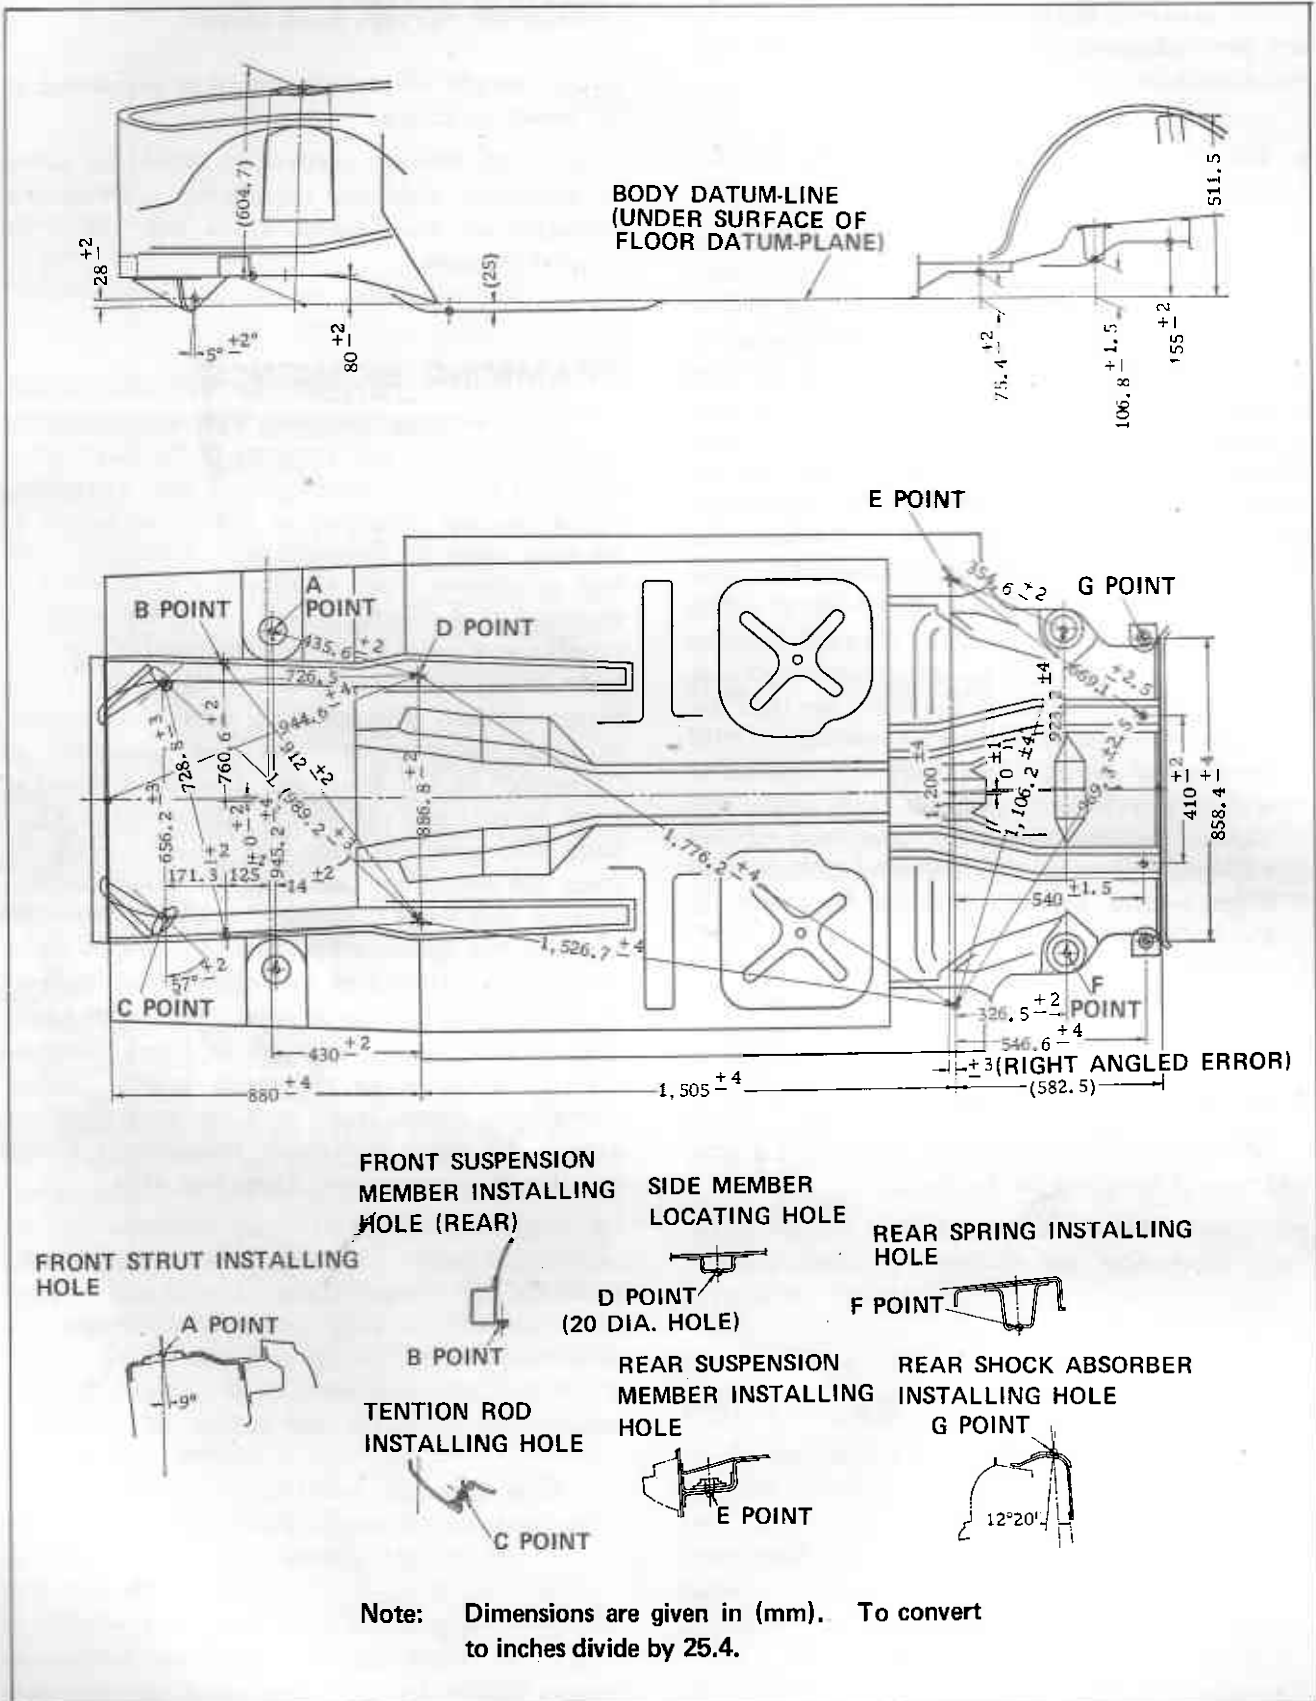

Fig. BF-3 Body alignment check points
Misalignment in the underbody can affect the alignment of the front fenders, doors, trunk lid and windows, and also the station wagon tail gate and rear body opening. Most important, however, underbody misalignment can influence the suspension system, thereby causing many of the problems that arise from suspension misalignment. It is essential that underbody alignment be within the specified dimensions given in Fig. BF-3.
Horizontal dimensions shown in the center portion of Figure BF-3 are calculated on a plane parallel to the underbody.
In the center portion of Figure BF-3 all reference locations shown are symmetrical about the center-line of the vehicle. For example, when performing a cross-check of the body floor panel dimensions (Fig. BF-3) the diagonal measurement should be the same in both directions. Cross checking operations are used to determine the relationship between two locations on the underbody.
- b. The vertical dimension from the datum line to the points to be measured. As an example, the diagonal measurement (calculated on a horizontal plane) between reference points of dimension line L shown in Figure BF-3 is 959.2 mm (35.94 in.). The specifications from the datum line have a vertical height difference of 53 mm (2.05 in.) between the forward location of dimension "L" {at vertical dimension 28 mm (1.1 in.)} and the rearward location of dimension "L" {at vertical dimension 25 mm (0.98 in.)}. The vertical pointer used at the forward location should be positioned so as to extend 53 mm (2.08 in.) further from the tram bar than the pointer used at the rearward location. With the proper settings the tram bar will be on a plane parallel to that of the body. The exception to this would be when one of the reference locations is included in the misaligned area, then the parallel plane between the body and the tram bar may not prevail. After completion of the repairs, the tram gauge should be set at the specified dimension to check the accuracy of the repair operation.